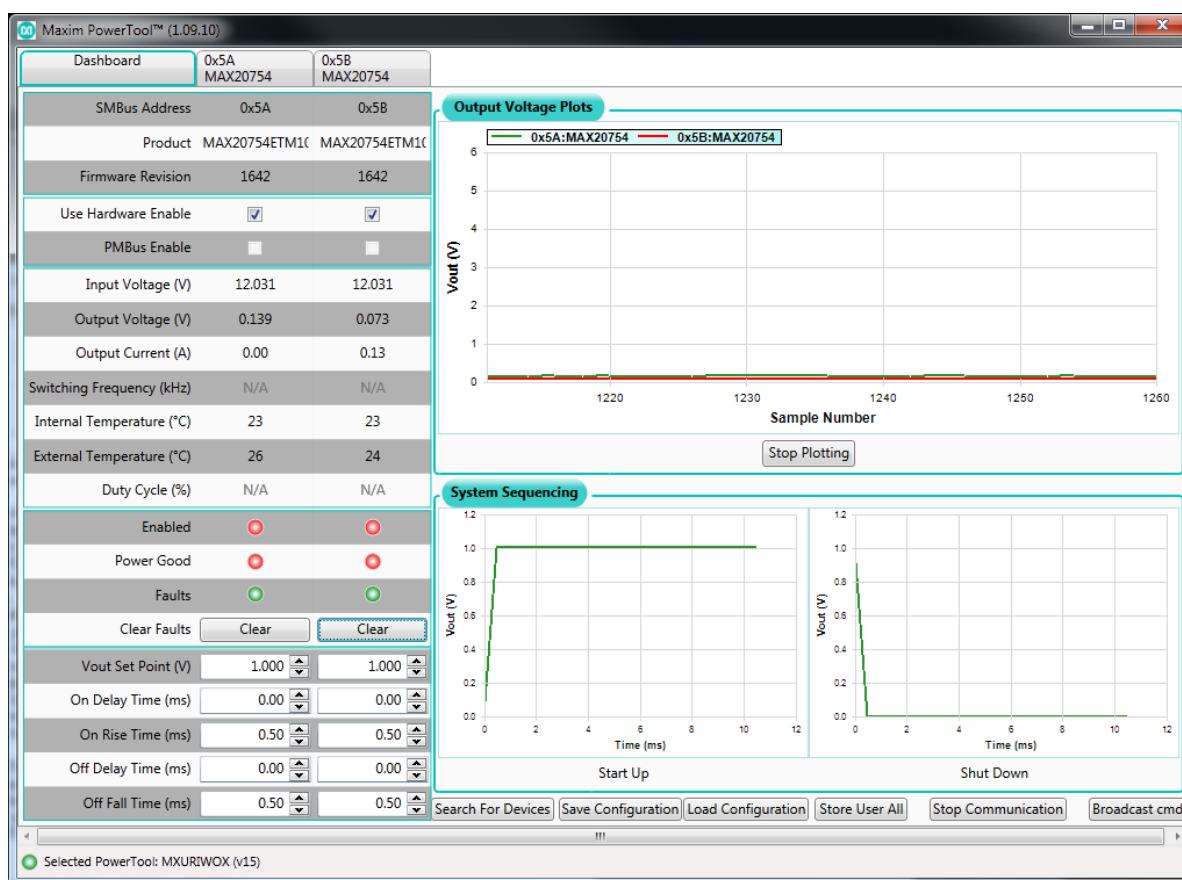

Figure 1. Maxim PowerTool Graphical User Interface Software Dashboard Window
- 10) Start the GUI software. The “Dashboard” window should appear, as shown in Figure 1.